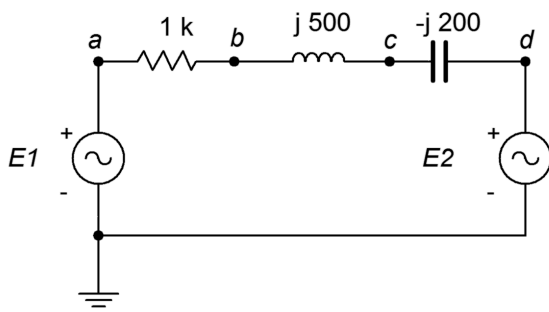

Figure 2.37
57. For the circuit of Figure 2.37, determine the voltages across each component. $E1=1\angle 0^\circ$ and $E2=8\angle 60^\circ$.